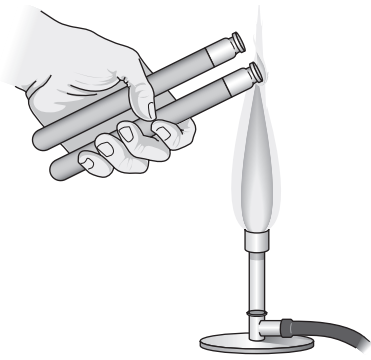

FIG. 2.3. Heating the tubes.
Heating the Tubes. With the caps removed, flame the lips of both tubes briefly to kill any airborne microbes that may contaminate the top of the tube during transfer procedures (Fig. 2.3).
4. Heat the lips of both tubes briefly to kill any airborne microbes that may contaminate the top of the tube during the transfer. (See Fig. 2.3.)